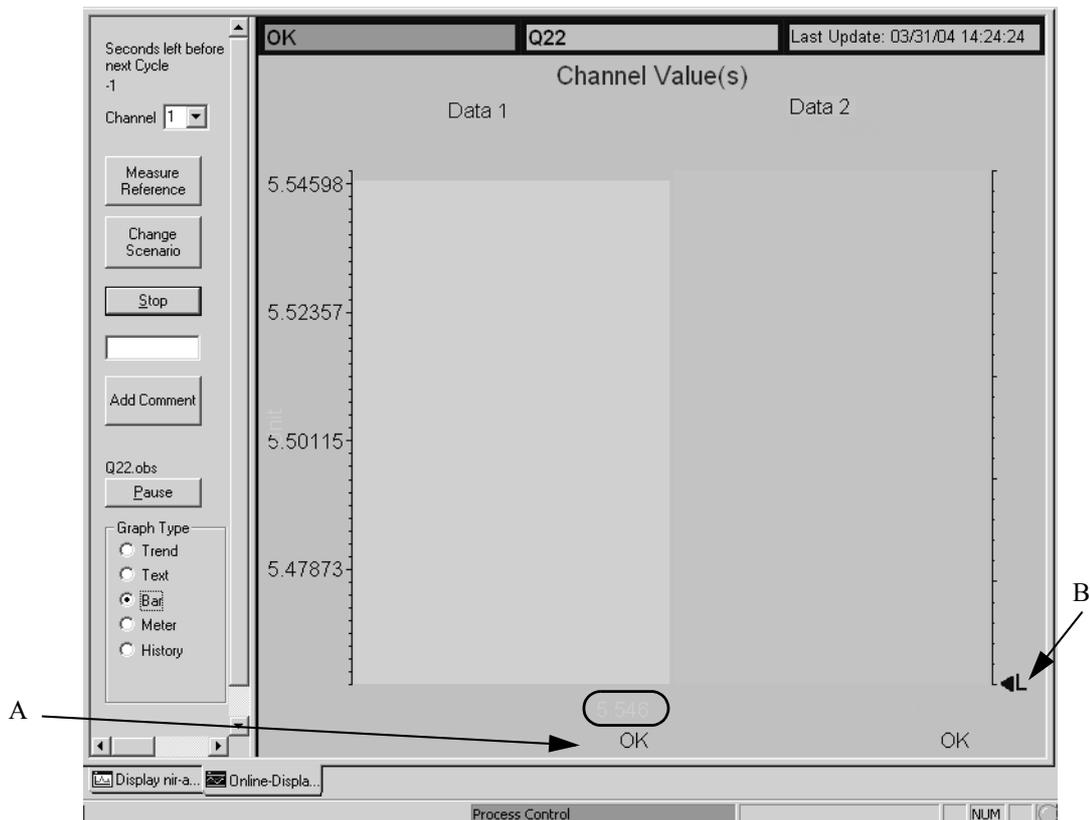

Figure 17: Process Control - Bar View
At the top the names of the channels or components are displayed. These names correlate to the channel buttons on the trend view, as well as to the order and colors of the data. At the bottom the analysis values achieved for each channel are displayed (see circle in figure 17).
Additional fields indicate the alarm status (A in figure 17). If you reach one of the limits defined in the setup, an alarm text pops up which refers to the particular channel. The alarm status is indicated by different colors:
On the left side of the bar view is the axis which defines the scale. This scale always refers to the active channel. Small indicators (B in figure 17) correspond to low (L) and high (H) alarm values.